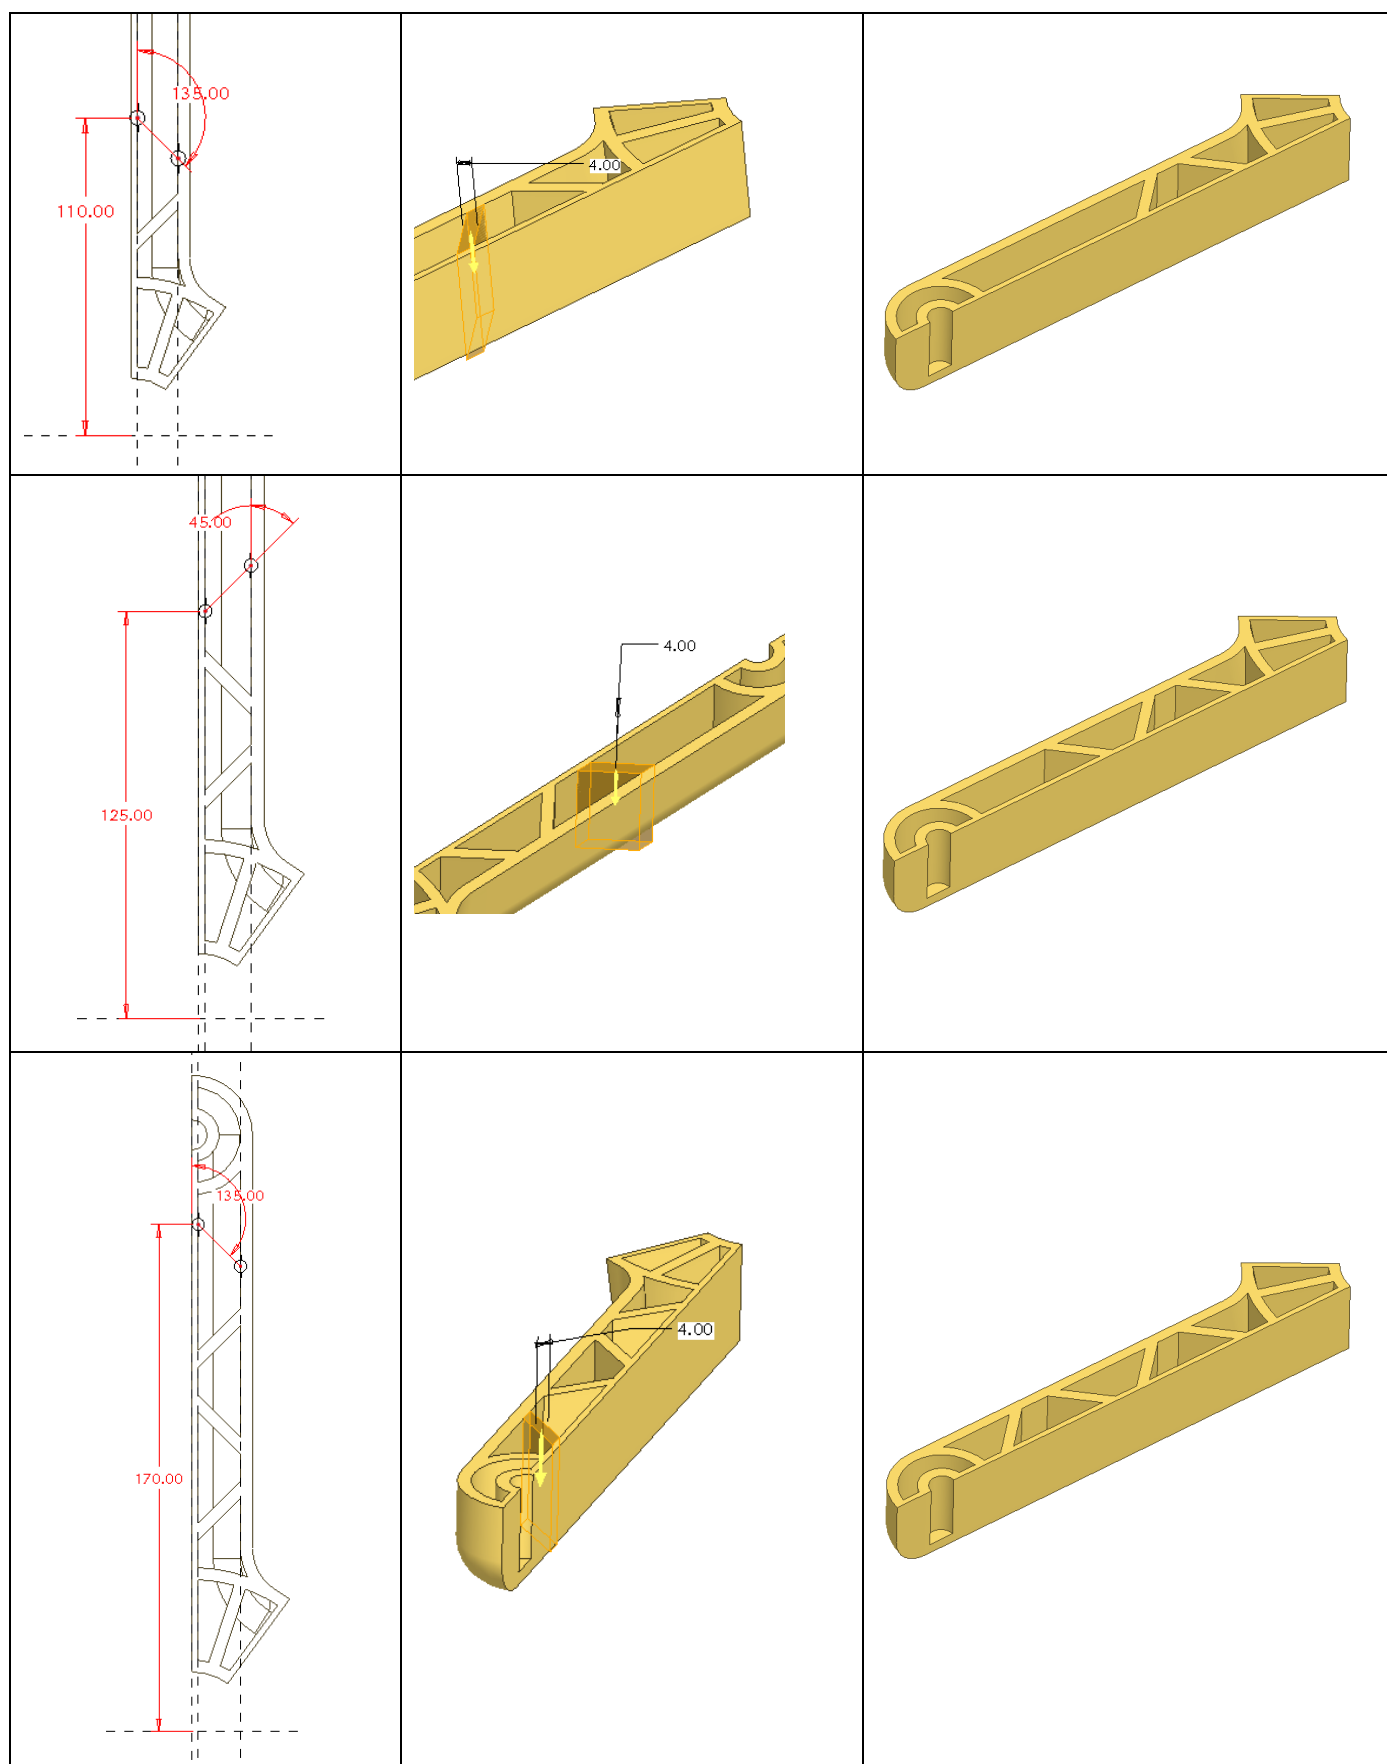

Figure 18 – Thin Protrusions
- Create a new extrusion. From the dashboard choose the Sketch icon then pick the datum plane **TOP** by clicking on it in the graphics window or in the browser. Draw the appropriate sketch for this feature (see the comic strip in Figure 18) and exit sketcher . On the dashboard choose the up to next surface option  and use the button to make sure the extrusion is going the correct direction – towards the inside of the leg. Now click on the thicken sketch button . This button takes the single line sketch you have drawn and adds material to the thickness typed in the box next to the button – 4. Also the second  button decides which side of the sketch to add material – click it till the material is on the correct side. Finish the feature with .
- Perform all the ribs showed in Figure 18.